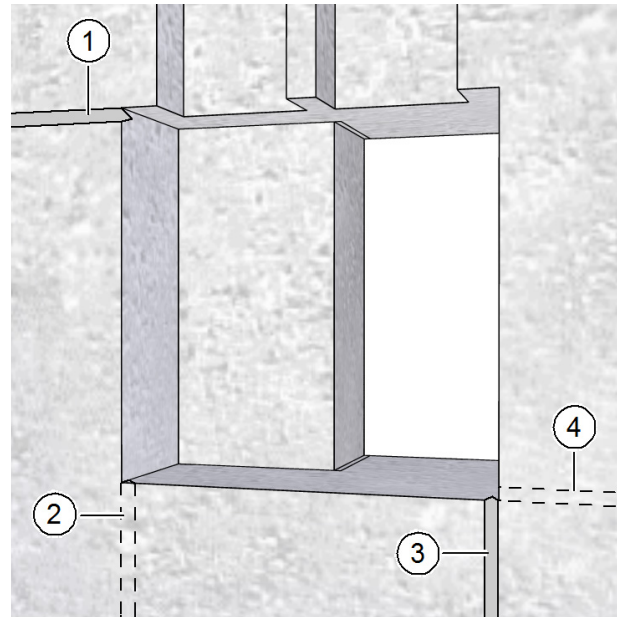

Fig. 10: Chasing out channels for connecting cables
- ▶ Chase one channel for the mains cable (item 1 in Fig. 10) and one for the control cable, if required (item 3 in Fig. 10).
- The wall channels in Fig. 10 are shown by way of example. Alternative cable ducts are shown as dashed lines (items 2 and 4 in Fig. 10). For the subsequent electrical installation work, we recommend running the mains cable from the left and the control cable (if used) from the right at the wall breakthrough.